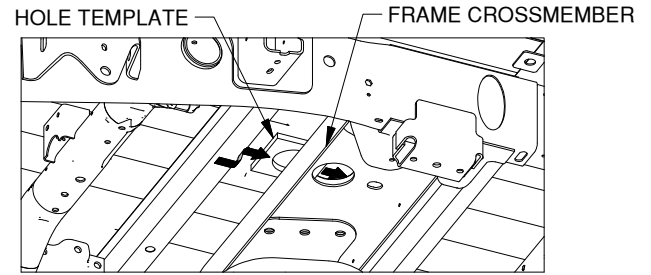

Figure B1: Looking up at bed from forward of driver side tire.
1. **Place spacer block.** Position the plastic spacer block between the frame cross member and the bed as shown. See figure B1. Center the hole in the spacer block over the hole in the frame.